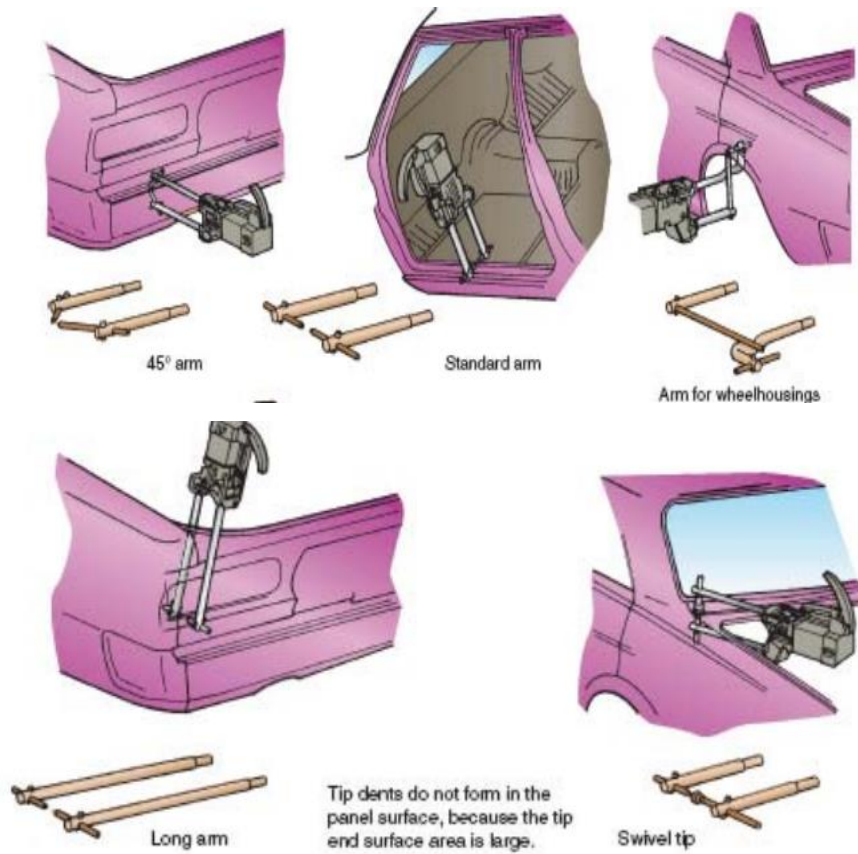

Figure 1
13. Adjust the arm length or welding time according to the thickness of the panels to get best welding result (Fig 1). Follow the spot welding positions as table below.